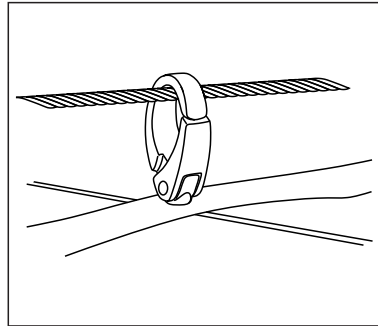

Fig. 22
8. Install the canopy frame by bringing each profile to the cable and pushing the clip's gate into the cable on each side. Make sure the open end of the profile is facing outside (Fig.22).